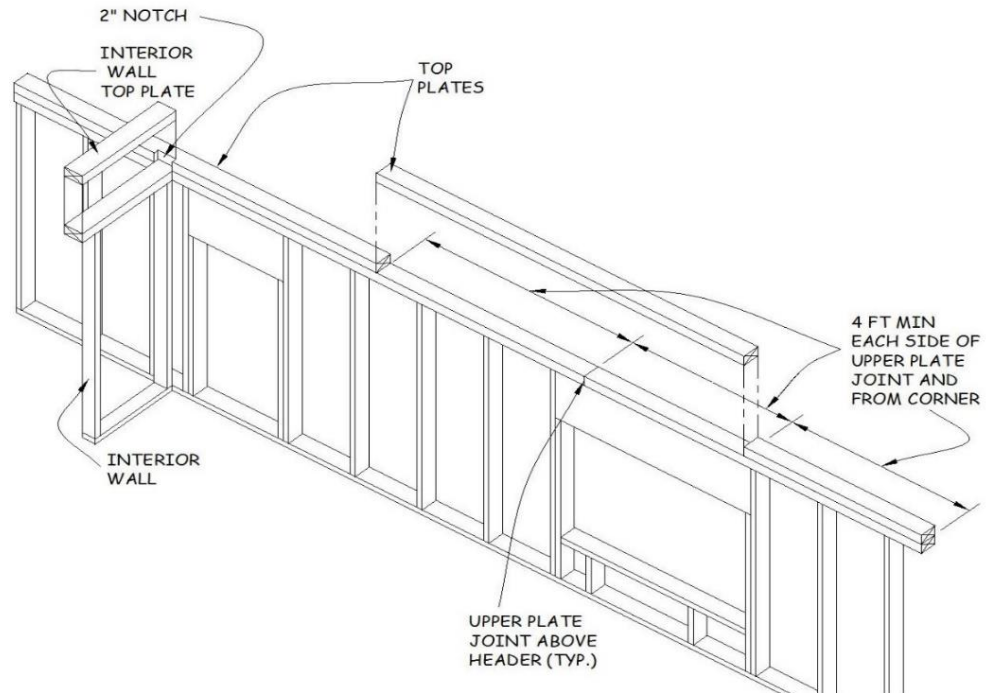

Figure 5-3. Exterior Wall Top Plate Installation.
2. The top plate on all bearing walls must extend a minimum of 4' on each side of the wall plate joint, and at each corner (see Figure 5-3.).